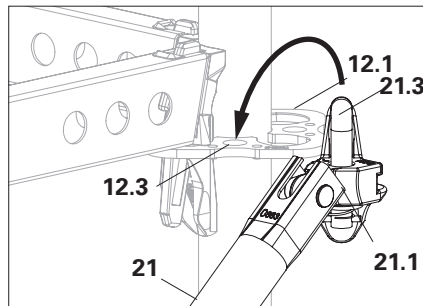

Fig. A4.03a
1. Push the brace head (21.1) with raised bolt (21.3) onto the upper rosette (12.1). (Fig. A4.03a)